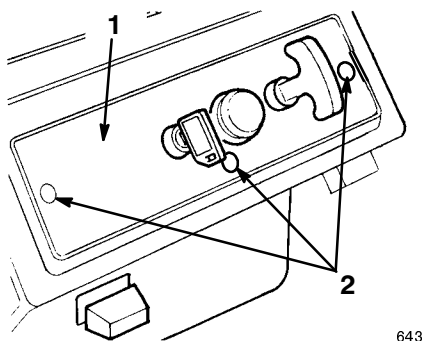

Figure 16
3. Remove the three screws that secure the control panel to the housing (Fig. 16).
1. Remove the three mounting screws that secure the control panel to the housing (Fig. 16).